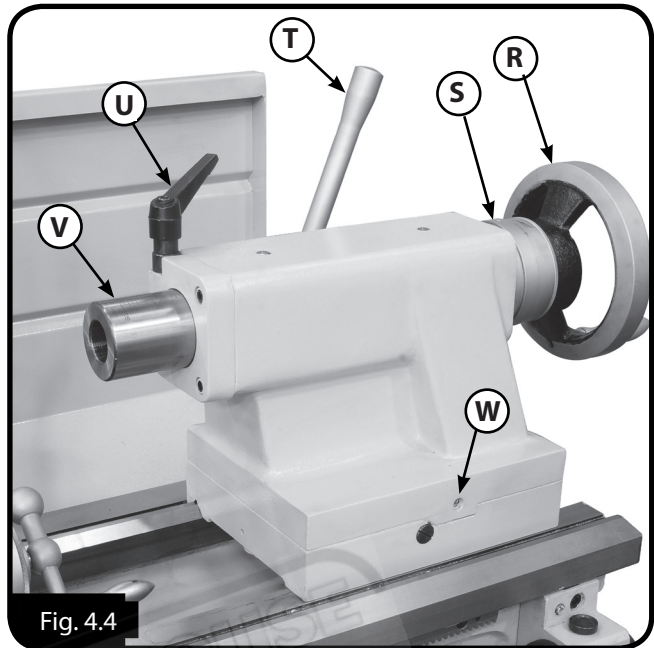
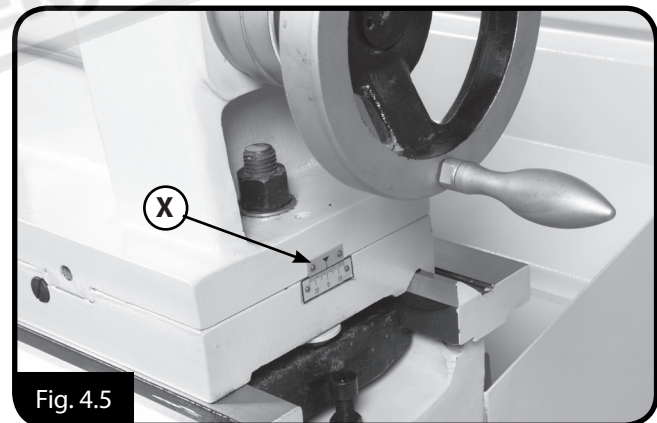

Fig. 4.4
Fig. 4.5
**TAILSTOCK (Fig.4.4)**
**X. Offset Scale:** Indicates the relative distance of tailstock offset from the spindle centerline. (Fig. 4.5)
The tailstock is typically used to support long workpieces by means of a live or dead center. It can also be used to hold a drill or chuck to drill holes in the center of the end of a part. Custom arbors and tapers can also be cut on your lathe by using the offset tailstock adjustment screws (W in Fig. 4.4)
**Note:** The marks on the indicator on the end of the tailstock (Fig. 4.5) are only a guide. For a precise offset, use a dial indicator to check while adjusting the screws that are located on both sides of the tailstock. (W in Fig. 4.4)
7. Use a micrometer to measure both ends of the workpiece. If the test stock is larger at the tailstock end, then adjust the tailstock toward the front of the lathe 1/2 the distance of the difference. ( See Fig. 4.4 for adjustment screws)